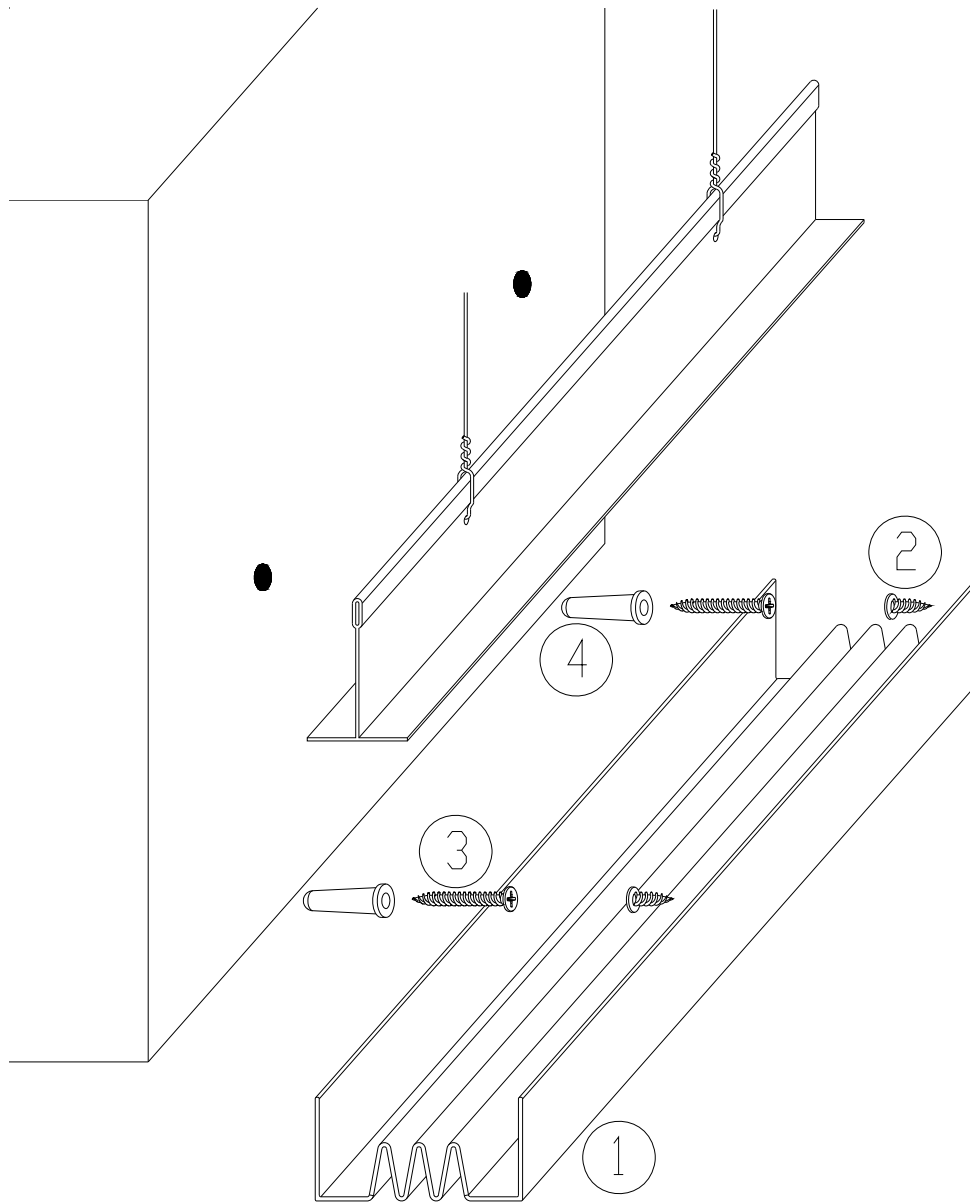

Figure 1
The following installation instructions are very important. Read them carefully, and be sure you understand them completely before you begin any work. These instructions are applicable to model AVL-1. Installation is illustrated in Figure 1.
STEP 3. Place the seal into its installed position. Ensure that the seal is straight, level, and properly aligned. Using the seal as a template, mark the location for the anchor holes on the concrete. Remove the seal from its position, and drill the anchor holes at the marked locations (Figure 1). Clean away the dust, dirt and debris.